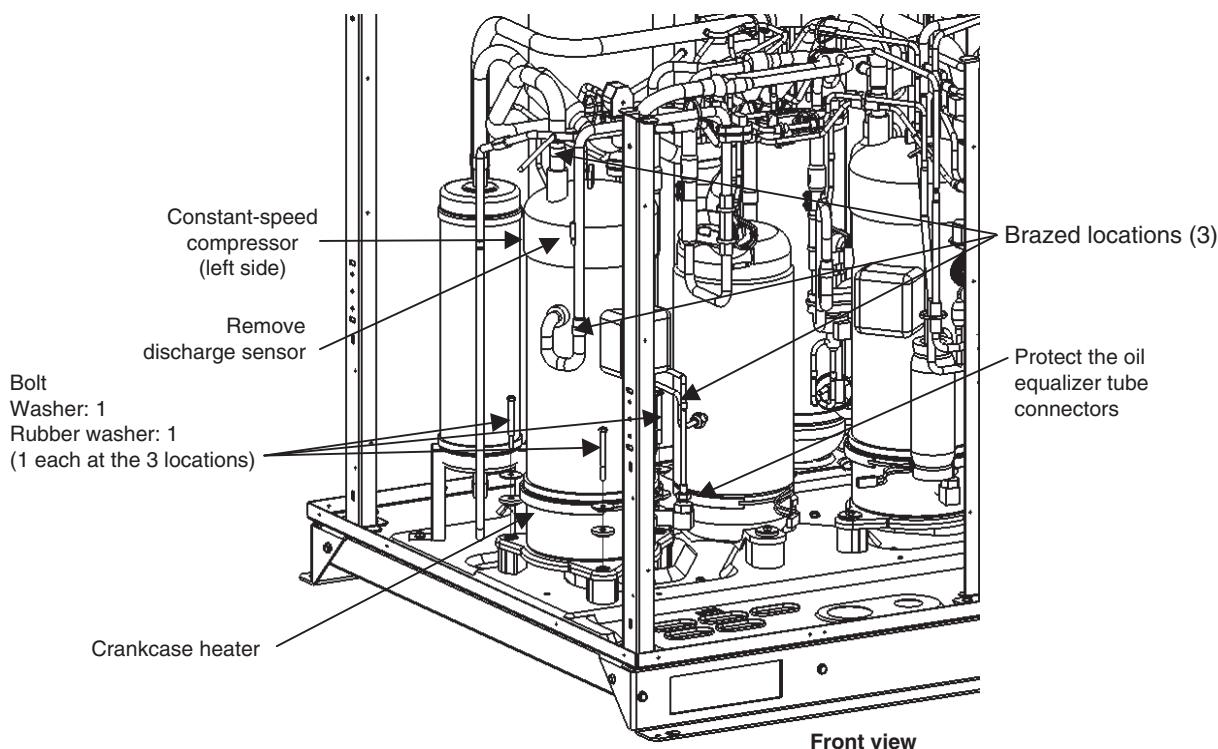

Fig. 23
- (7) Disconnect the 3 brazed locations shown in the figure 23.